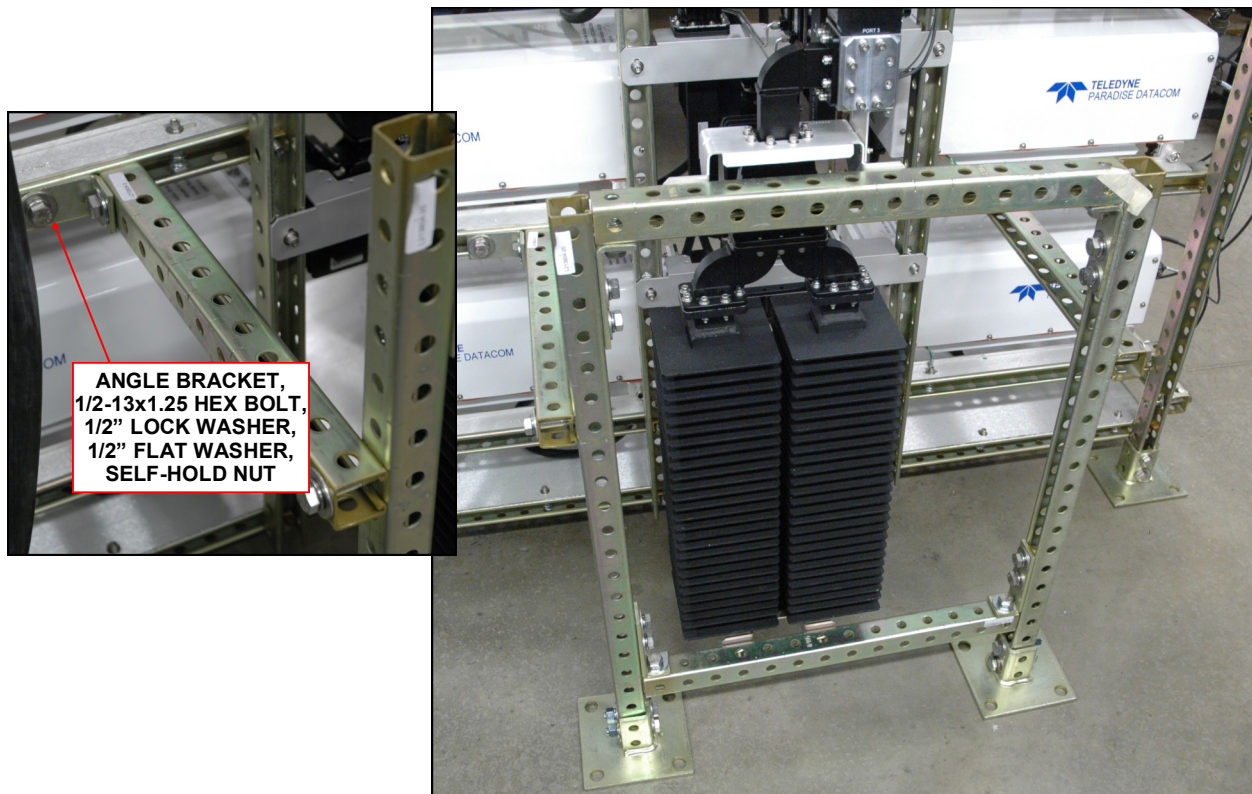

Figure 2-20: Install System Maintenance Switch Assembly
The system termination is mounted to a uni-strut frame, which is attached to the system uni-strut frame. See **Figure 2-20**. Connect the horizontal sections of uni-strut to the HPA system framework using a two-hole L-bracket, two (2) self-holding nuts, two (2) 1/2-13X1.25" hex bolts, lock washers and flat washers. Secure all hardware.